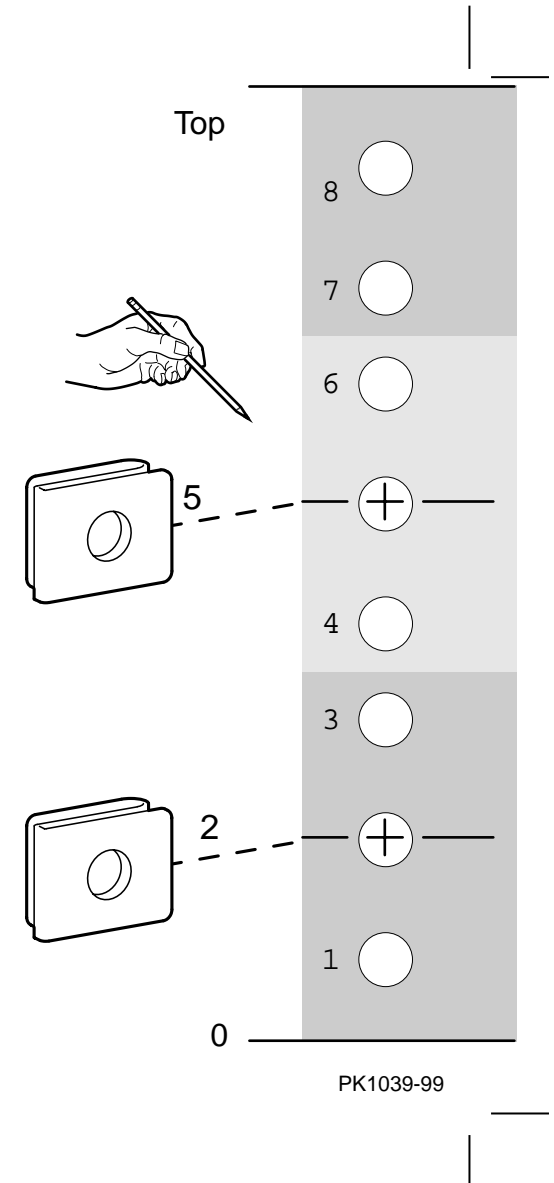

Figure 9 Template for Side Rails
- Figure 9) mark holes 2 and 5 on an interior rail, and base zero (see Figure 2).